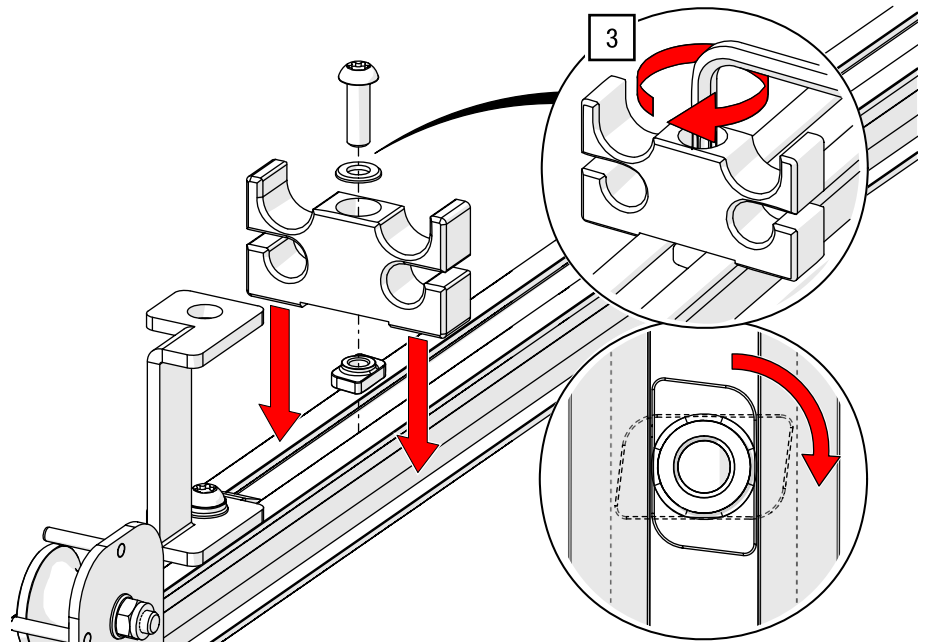

Fig. 106: Double top cord operation – Mount the cord operation straight
3. Position one of the straight cord guides close to the suspensions, distribute the rest on the remaining straight track section and tighten the screw with a TORX®-key T40 and 27 Nm (see Fig. 106).